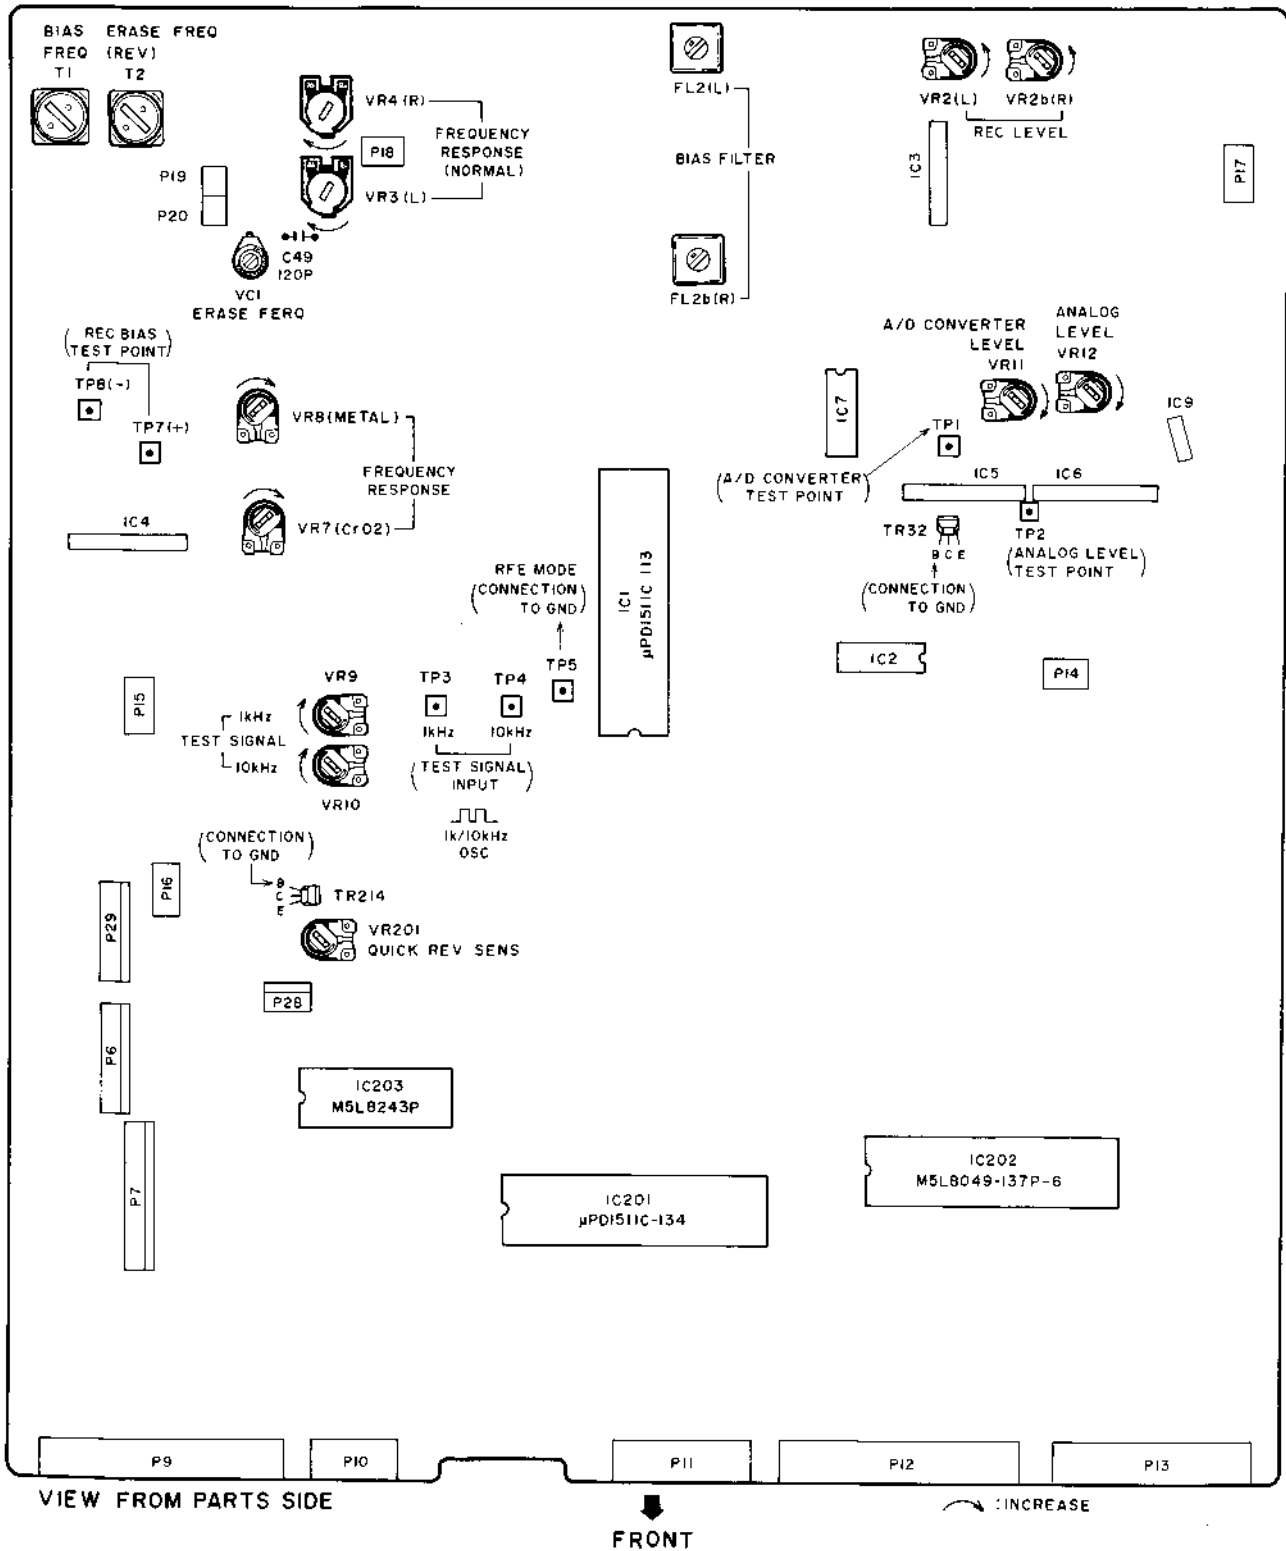

Fig. 7-3 Sys-con & Tuning P.C Board
b. Refer to Fig. 7-3 for tuning adjustment.
- c. Source signal will be mute in REF mode, unless J25 pin ② is disconnected.
- Using the tapeless cassette pack, adjust VR201 (on TUNING & SYS-CON PCB, refer to Fig. 7-3) so that the Digital Voltmeter readings $4.30\text{V} \pm 0.05\text{V}$ DC at FWD playback mode.